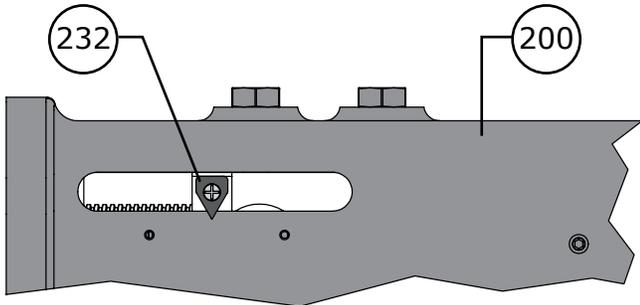

Figure 40 Suggested Pointer Start Position
- 3 Confirm that the actuator is in its FAIL POSITION (de-energized) and adjust the handwheel on the side-mounted handwheel until the pointer (Key 213) sits roughly at center position in the view window of the handwheel body (Key 200) (refer to Figure 40). Adjustments will need to be made to the handwheel (223) and pointer position during mounting in order for proper alignment during Step 6.